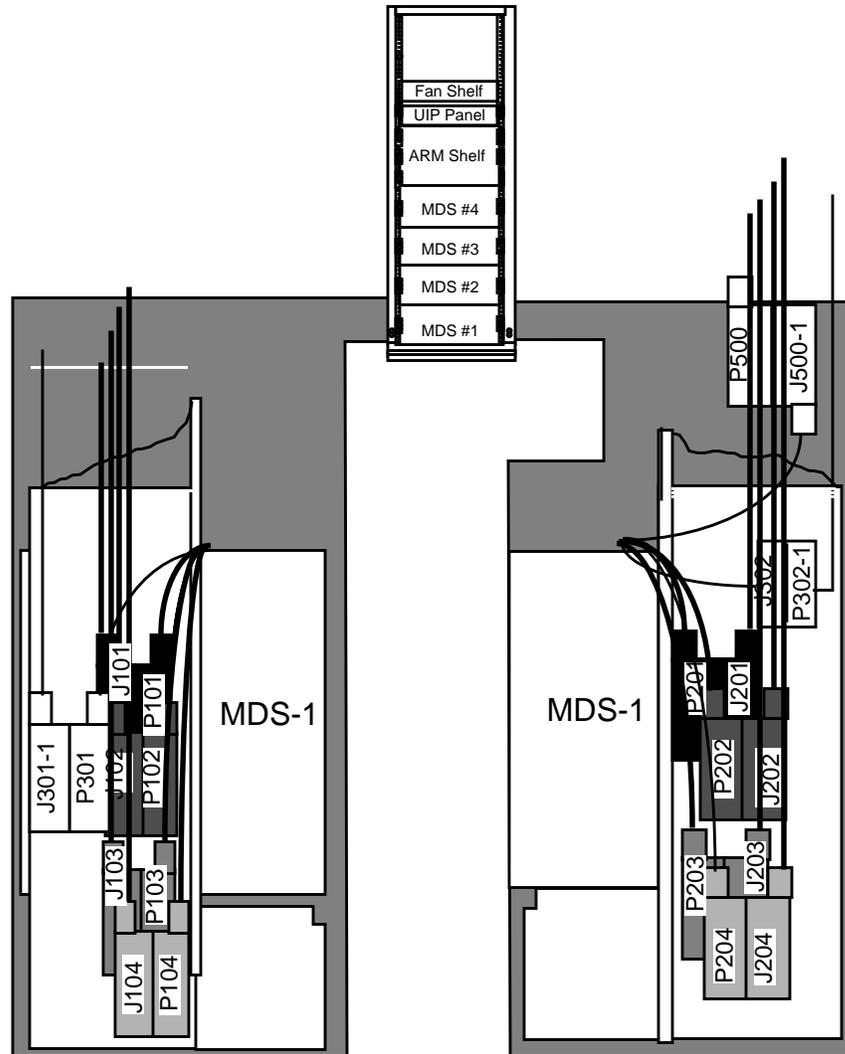

Figure 3-31. MDS-1 VF Cabling
Step 3: Orient the mating cable connectors so that the customer cables exit upwards towards the cable racks. Refer to Figure 3-31.